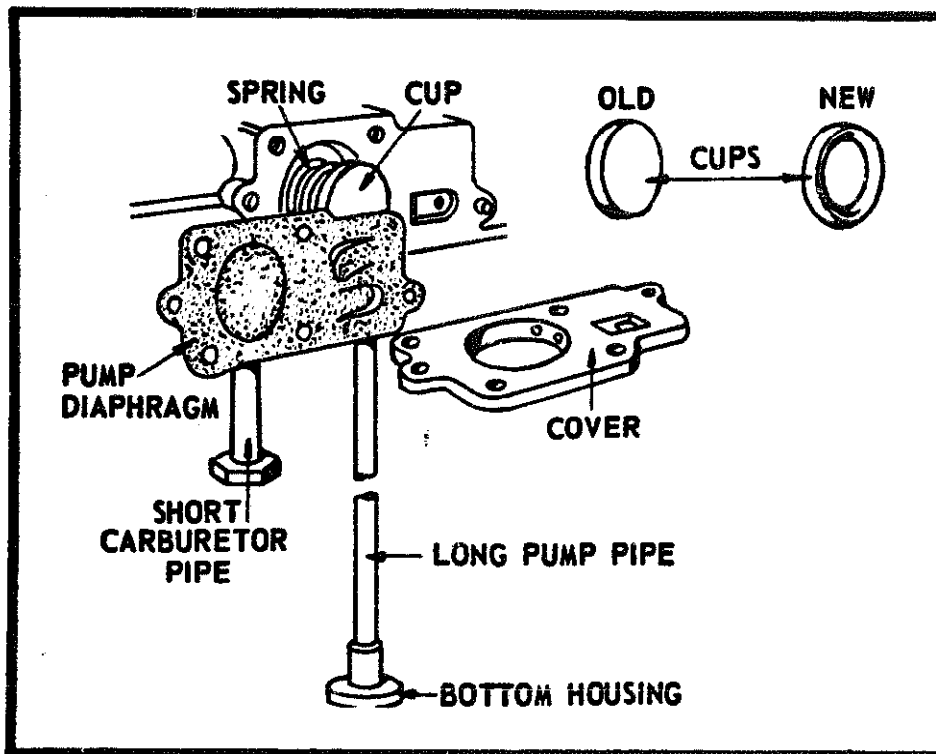

Fig. 3-16. Palsa-Jet pump assembly. (Courtesy International Harvester Co.)
**Pump Elements.** The pump diaphragm is a masterful example of engineering economy (Fig. 3-16). This single part combines the functions of pump diaphragm, suction and exhaust valves, and pump gasket. These functions depend upon the elasticity of the diaphragm, a quality that is difficult to judge by feel. Wise mechanics replace the diaphragm whenever the pump cover is removed.